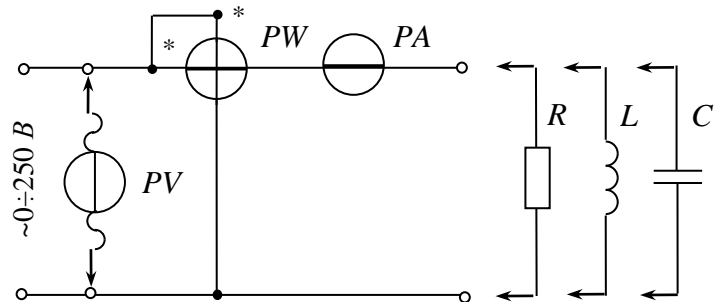

Fig. 3.9.
1. To collect the circuit (fig. 3.9) and connect it to the clamps $< \sim >$ $< 0 \div 250V >$. To place $LATR$ switch in position $< \sim >$, $0 \div 250V$.
The name and purpose of the work. Homework – the calculation of the circuit. Schematic diagram of the investigated circuit (fig 3.9). Tables 3.2, 3.3, 3.4. The substitutional schemes of coil and capacitor and calculations of their parameters. Vector diagrams for resistance, coil and capacitor. Conclusions.